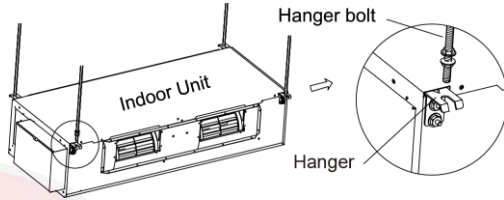

Fig. 4.5
- (3). Install the hanger to the unit. (Fig. 4.5)